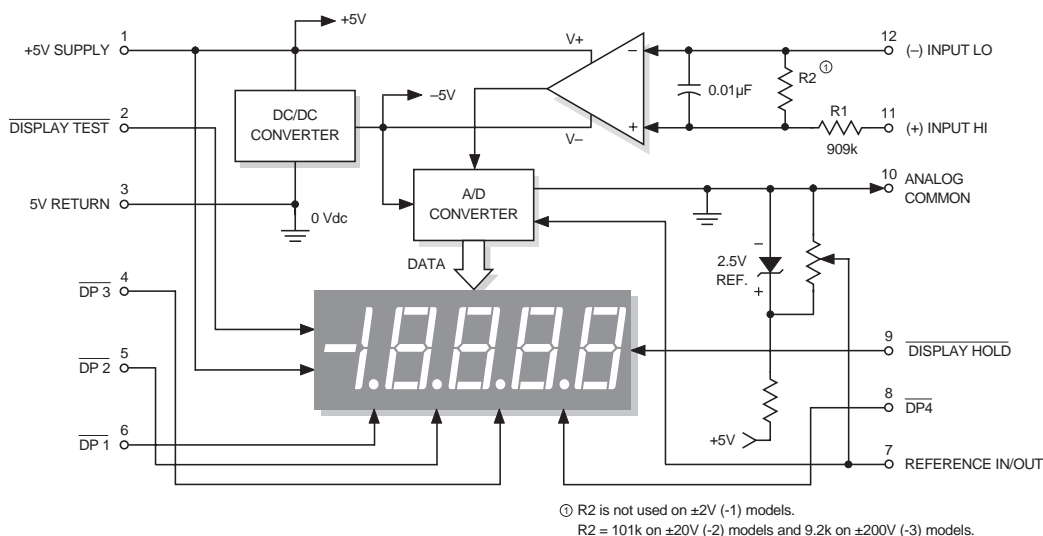

Figure 1. DMS-40PC Series Simplified Schematic
① Applies for transient or continuous overvoltages applied to (+) INPUT HI (pin 11) with (-) INPUT LO (pin 12) properly connected. Pin 12 is not overvoltage protected (see Figure 1). Voltages applied to pin 12 should not exceed the supply voltage.
② See Technical Notes.
③ BCD outputs are optional and must be specified in the part number. See Ordering Information.
④ Includes high-intensity and BCD-output models.
The DMS-40PC's simplified schematic, shown in Figure 1, can be very useful when debugging a malfunctioning circuit, especially if the user has some knowledge of operational amplifiers (op amps). The meter's high-impedance input consists of an op amp powered from a  $\pm 5V$ dc power supply (the  $-5V$  is internally generated). Figure 1 shows that input signals applied to (–) INPUT LO and (+) INPUT HI must be kept within the  $\pm 5V$  power-supply rails. Also note that only pin 11 has a current-limiting 909k $\Omega$  series resistor. High input voltages that have a common ground connection with pin 3 (5V RETURN) should only be applied to pin 11 ((+) INPUT HI) and never to pin 12. In these high-voltage cases, pin 12 should always be tied to pin 3 (5V RETURN).